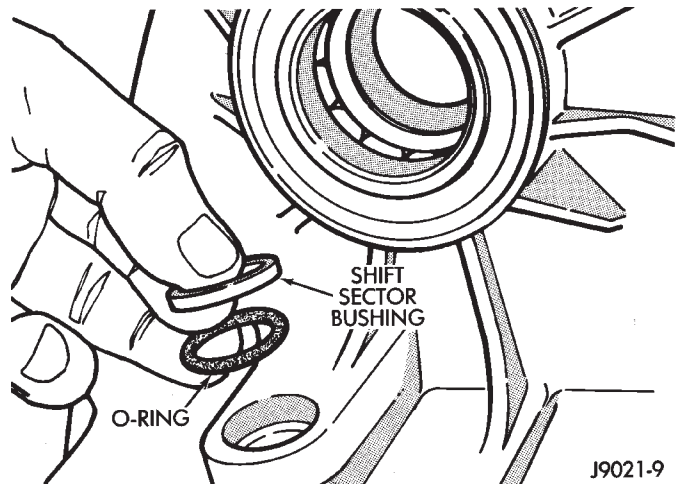

Fig. 39 Installing Sector O-Ring And Bushing
- (21) Install new sector shaft O-ring and bushing (Fig. 39).